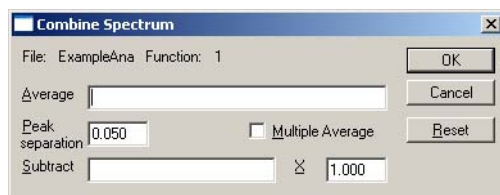

Figure 4-7 Combine Spectrum Dialog Box
1. Return to the Chromatogram window and Select Process > Combine Spectra to open the Combine Spectrum dialog box (Figure 4-7).